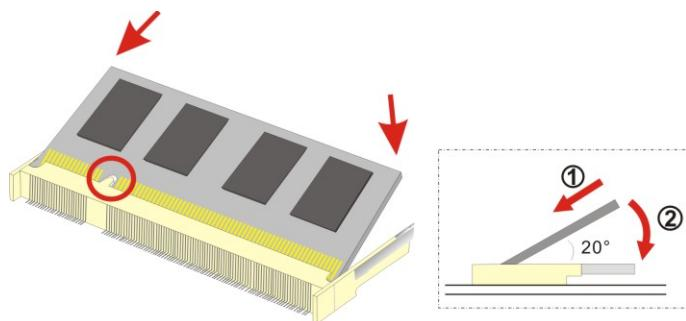

Figure 4-1: SO-DIMM Installation
To install a SO-DIMM, please follow the steps below and refer to **Figure 4-1**.
**Step 3:** Insert the SO-DIMM. Push the memory in at a 20° angle. (See Figure 4-1)
**Step 4:** Seat the SO-DIMM. Gently push downwards and the arms clip into place. (See Figure 4-1).